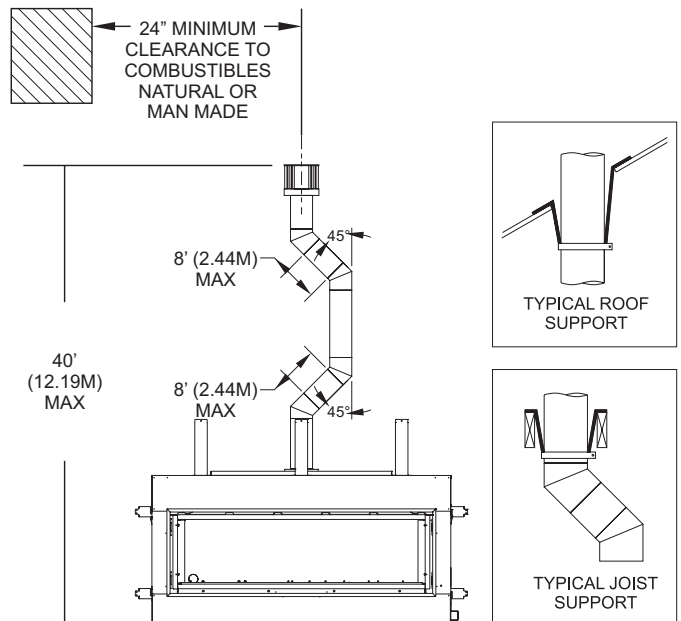

Figure 56
**NOTICE:** Build the chase large enough to maintain the minimum clearance of combustible materials (including insulation) to the vent system. When installing the vent system in a chase, insulate the chase as you would the outside walls of your home. This is especially important in cold climates. Upon completion of chase framing, install the vent system by following the instructions in this manual. The vertical termination cap for this fireplace must not be any closer than 24-in. to combustible materials. See Figure 56.